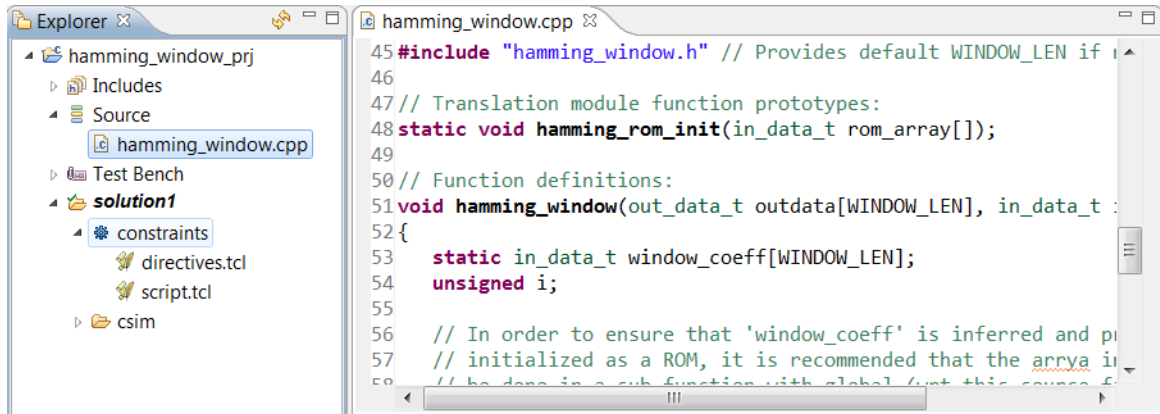

Figure 3-18: C++ Code for C Validation Lab 3
4. Open the **Source** folder in the Explorer pane and double-click `hamming_window.cpp` to open the code, as shown in Figure 3-18.